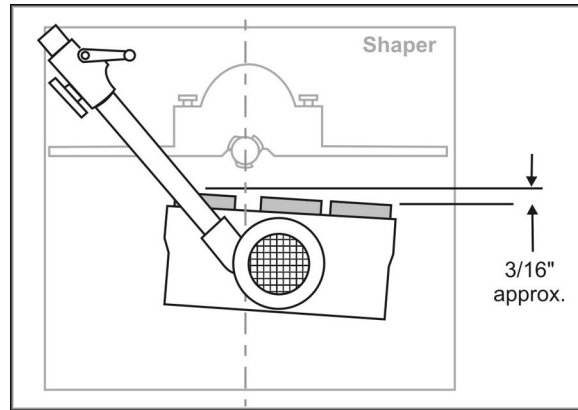

Figure 18
- To ensure that the workpiece is held firmly against the fence, set the stock feeder at a slight angle toward the fence in the direction of feed. In other words, the outfeed roller should be approximately $3/16"$ (5mm) closer to the fence than the infeed roller. See Figure 18.